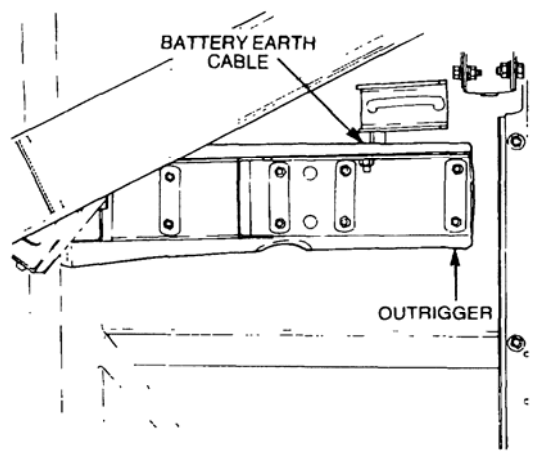

Figure 22 Removal of the Body Mounting Bolts
- yy. Remove the bolts, nuts and washers securing the 24-volt installation battery carrier to the rear wheel arch panels, then remove the bolts, nuts and washers securing the body mounting brackets to the chassis frame outrigger (Figure 22), then repeat the procedure for the opposite side. Remove the battery earth cable from the left side outrigger.
- e.** Install the eight nuts, washers and bolts, retaining the body mounting brackets to the chassis frame outrigger, (Figure 22), then tighten securely. Repeat the procedure for the opposite side. Install the battery earth cable on the left side outrigger, and tighten the retaining bolt, washer and nut securely.